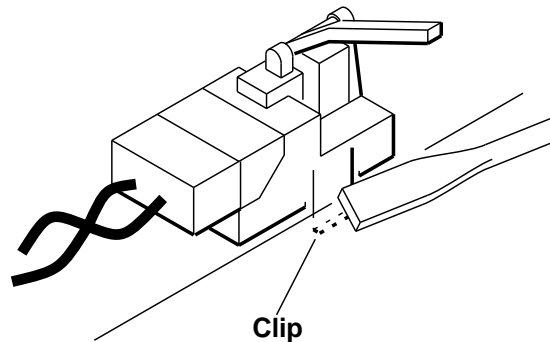

Figure 8. Sensor removal
- b. Release tabs on sensor holder (Figure 8), and remove sensor.
- e. Release tabs on sensor holder (Figure 8), and remove sensor.